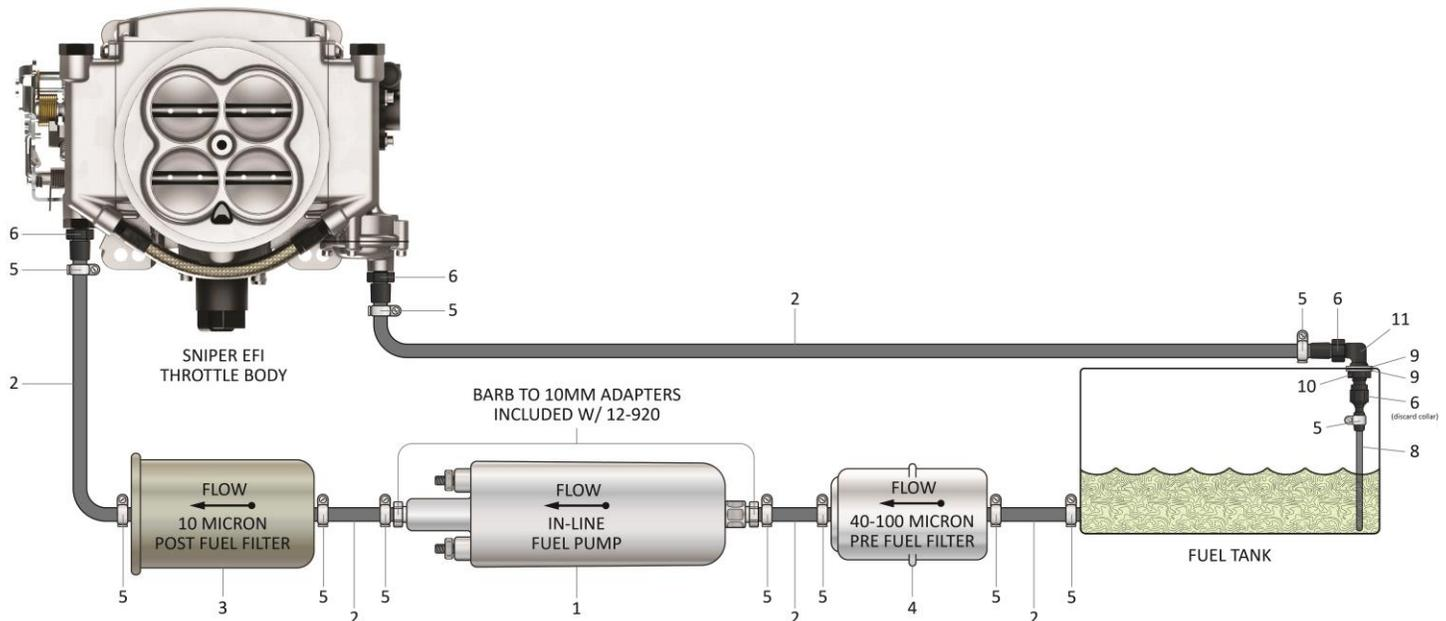

Figure 1 – 526-7 shown above
1. Use **Figure 1** below as a reference for the orientation and location of the fuel system components:1
With the fuel pump, filters, and bulkhead fitting all in place. You are now ready to install the fuel lines. Some connections will use hose clamps (**Item 5**), while others will use AN hose ends (**Item 6**). These connections are noted in **Figures 1 & 3**. Be sure to read and thoroughly understand all steps, notes, and hose assembly instructions (**Section 1.5**) below before proceeding with the fuel line installation.